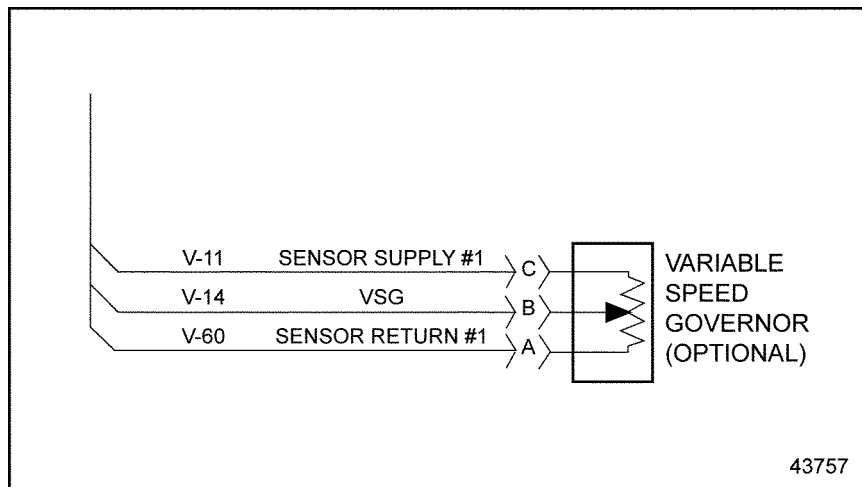

Figure 21-1 Variable Speed Governor Circuit
2. Unplug the VSG throttle connector. (For VSG circuit, see Figure 21-1.)